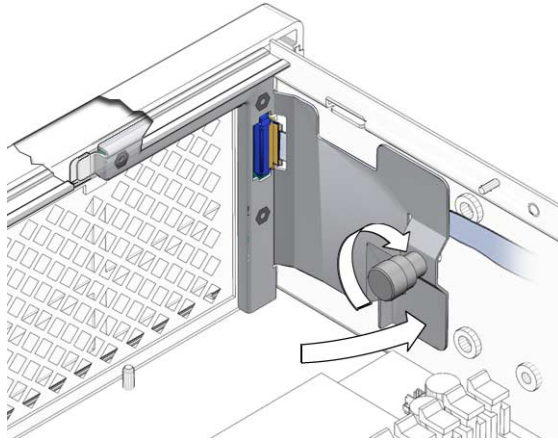

FIGURE 3-44 Securing the LED Board to the Chassis
4. Swing the LED board right to the chassis and tighten the thumbscrew (FIGURE 3-44).